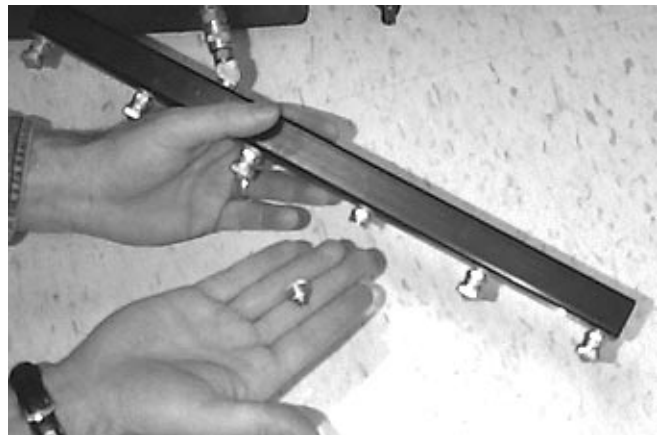

FIG. 23
2. Remove detachable spray bar from brush base. Remove twist-out spray tips from spray bar and soak in 118 ml (4 oz) acetic acid solution for up to 6 hours. After soaking tips, use a small brush to remove excess alkaline and rinse thoroughly. DO NOT use pointed objects to unplug spray tips (Figure 23).